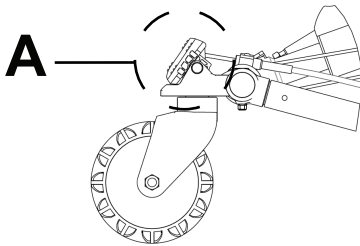

Figure 14 – Wheel lock on
To apply a wheel lock (A), press the red pedal down and away from the middle of the cot X-frame (Figure 14).